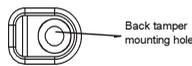

Figure B-13: Back Tamper Release
9. If using the Back Tamper switch, insert a screw into the Back Tamper mounting hole located in the center of the back cover Figure B- 13. When the detector is removed from the wall, the screw causes the tamper release to break away from the back cover and the Back Tamper switch is released.